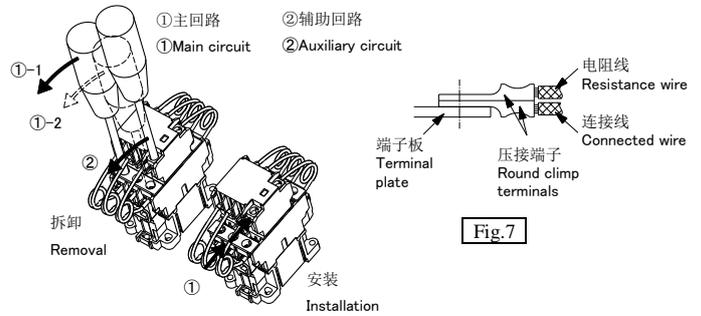

Fig. 6
* 接线时端子盖的拆卸、安装请按照 Fig. 6。
* See Fig. 6 for removal and installation of terminal cover when wiring.